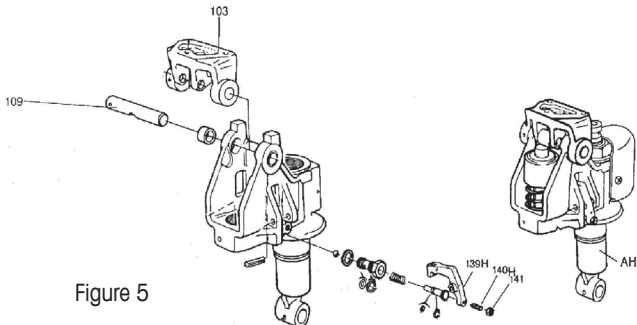

Figure 5
1. Loosen and remove the three screws and the three spring washers from the base (see figure ① below)
2. Place the handle on the base. Take caution when feeding the towing rope through the center of the base and the foreseen hole in the axle (see figure 5, 109).
3. Insert the three screws incl. spring washers into the base and tighten it securely (see figure ② below)
4. Raise the crank link and put the pin of the towing rope into the groove of the crank link (see figure ③ below and figure 5, 139H)
5. Open the terminal box, insert the battery and harness the terminal wires onto the battery. Make sure the red wire is harnessed to the positive pole and the black wire is harnessed to the negative pole (see below figure ④)
1. Adjust the setting screw (see figure 5, 140H) on the crank link until the LOWER position function works.
6. Secure the setting screw by tightening the setting screw nut (see figure 5, 140H and 141).